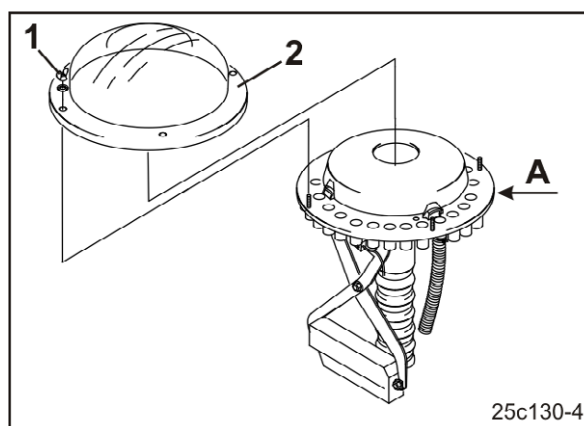

Fig. 206
3. Slacken the winged nuts (Fig. 206/1) and remove the clean plastic flap (Fig. 206/2) from the distributor head.
5. Clean impurities between the base plate (Fig. 206/A) with compressed air.
6. Install the plastic cap (Fig. 206/2).
7. Fix the plastic cap with winged nuts (Fig. 206/1).